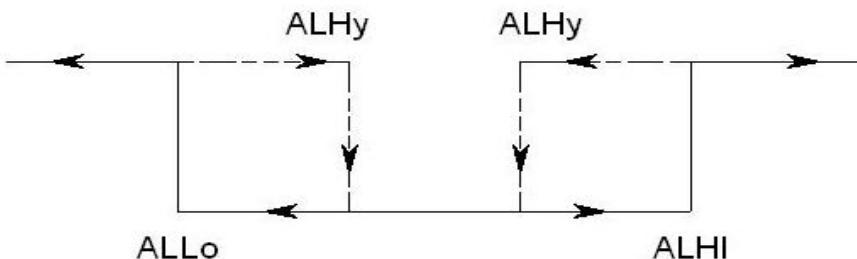

Fig. 4
- * The function of " Alarm Low limit value " setting, refer to page 12, Fig. 4.
- * The function of " Alarm Hysteresis value " setting, refer to following Fig. 4.